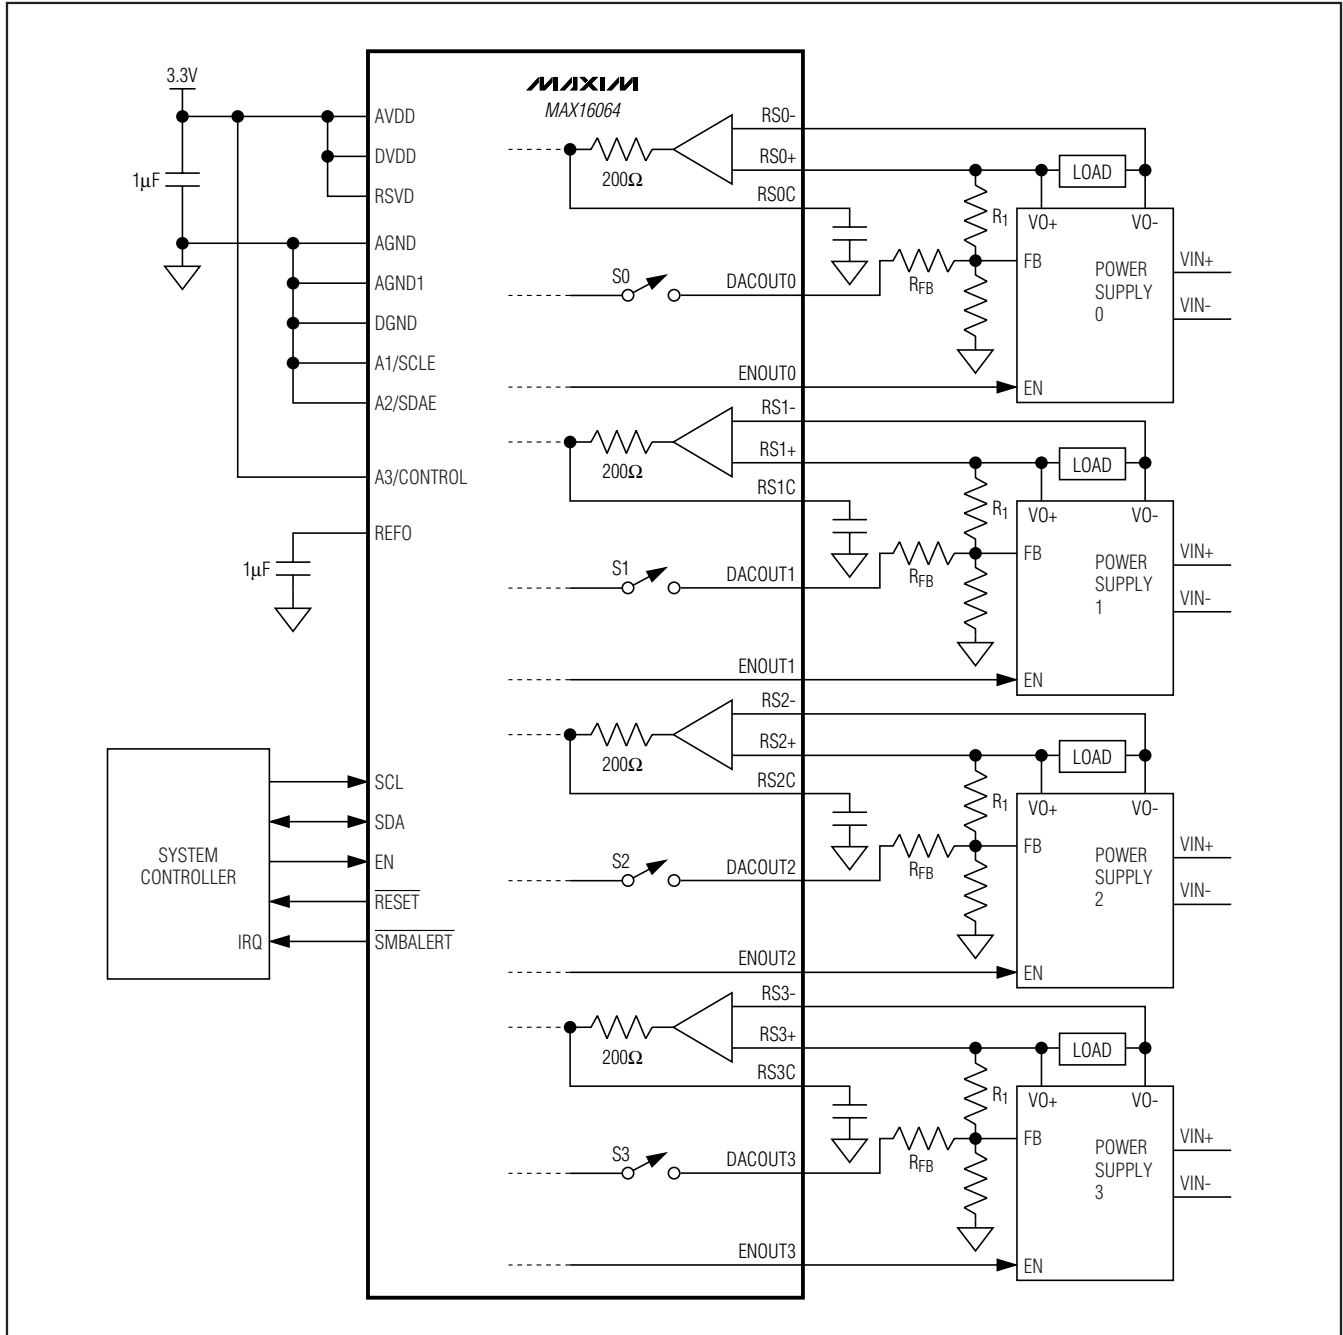

Figure 5. Typical System Application—Feedback Mode
Some power-supply converters do not provide a reference input. In these applications, the feedback node can be used instead. Connect a DACOUT_ output of the MAX16064 to the feedback node (FB) through a resistor R_{FB} as shown in Figure 5. In steady-state operation, the MAX16064 controls the power-supply voltage as measured between RS_+ and RS_- to ±0.3% accuracy by adjusting DACOUT_ 1 LSB at a time (0.5mV), up and down as required. This mode of operation is termed FB mode. Since the MAX16064 does not have control over the power-supply error-amplifier reference voltage, this mode relies on the power-supply soft-start setting to implement the required soft-start time.